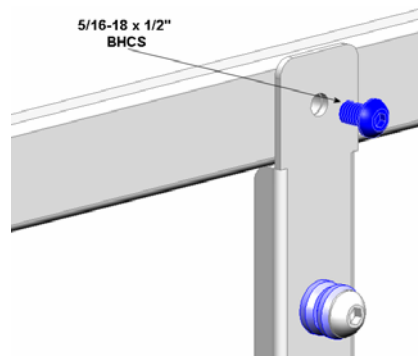
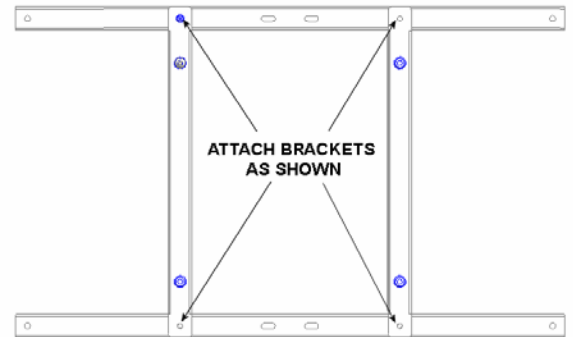

Figure 3
Figure 4
2. Attach the uprights to the upper and lower brackets using the 5/16-18 x 1/2" BHCS (see Figure 3 & Figure 4). Do not fully tighten until the brackets are attached to the screen.